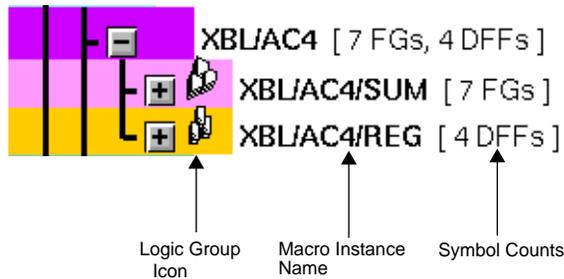
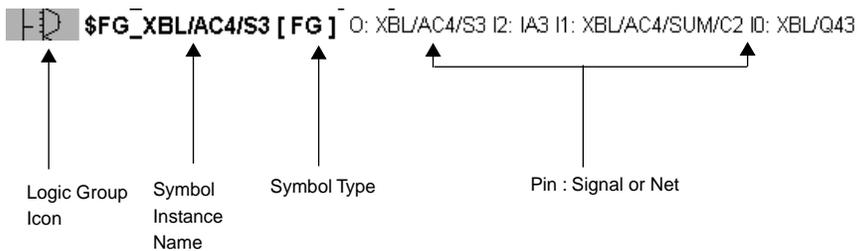

Figure 3-9 Hierarchical Macro Annotation
Figure 3-10 Symbol Annotation Explanation
In the case of the XC4000 family, the FPGA resources are categorized by type, such as FG, function generator; BUFTs, tristate buffers; DFFs, registers; IOBs, input/output pads, RAM/ROM, and related logic. Figure 3-9 labels the important parts of a hierarchical macro.
The symbol line represents the lowest hierarchy of any macro. It represents a single resource requirement of the design. The symbol line contains a logic group icon, the symbol name, symbol type, and the list of pin:net pairs. Figure 3-10 shows one of symbol instances of the expanded macro, XBL/AC4/SUM (shown in Figure 3-9). It labels the important parts of the symbol line.
In Figure 3-10 the logic icon that is shown represents a single 4-input function generator (FG) named \$FG_XBL/AC4/S3; its output connects to net XBL/AC4/S3; its inputs connect to the nets IA3, XBL/AC4/SUM/C2, and XBL/Q43.